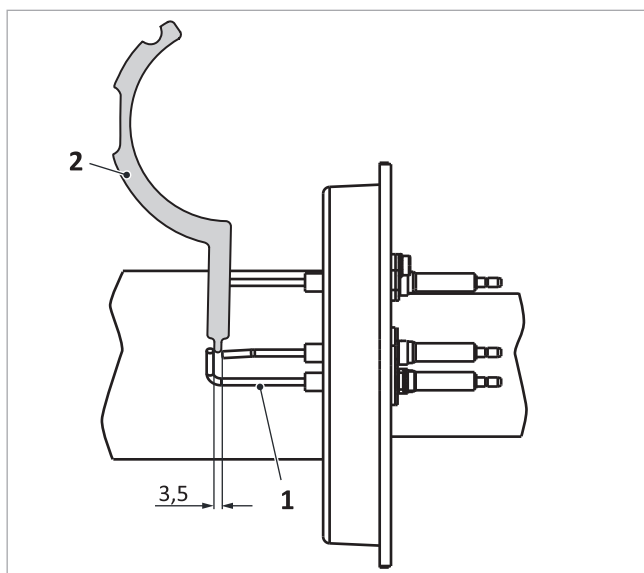

Fig. 144: Clearance from electrode to gauges on the ignition electrode
1. Check the clearance of the ionisation electrode using an electrode gauge → fig. 144 (2) (if necessary, correct it through careful bending).
- Electrodes below one another → fig. 144 (1): 3.5 mm